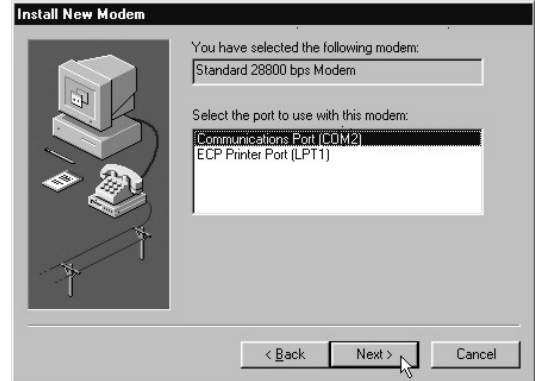

Figure 7 - Port Selection
5. Select the port to use with this modem. Click NEXT. Typically COM2 is used. (Fig. 7)